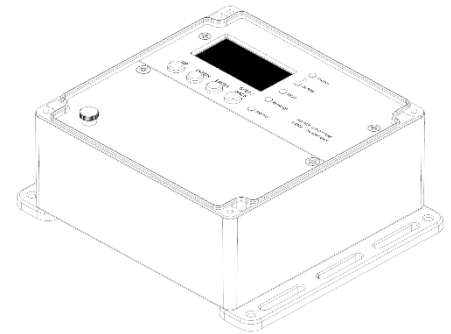

Figure 1: The controller showing the bottom side where to drill wiring holes.
2. Remove the white wiring cover and replace the clear cover to ensure you do not drill into any components. Drill holes on the bottom face of the controller inside of the dashed line shown in Figure 1 and remove all plastic shavings. Do not drill holes within 0.5" of the edge of the enclosure. Mount your conduit and cable fittings.